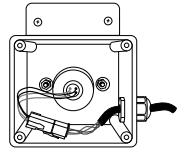

Figure 2
2. Once the UV bulb has cooled off remove the CLEARARRAY System enclosure cover (9) and gasket (8) by removing the four screws (10). This will expose the UV bulb and connections, Figure 2.